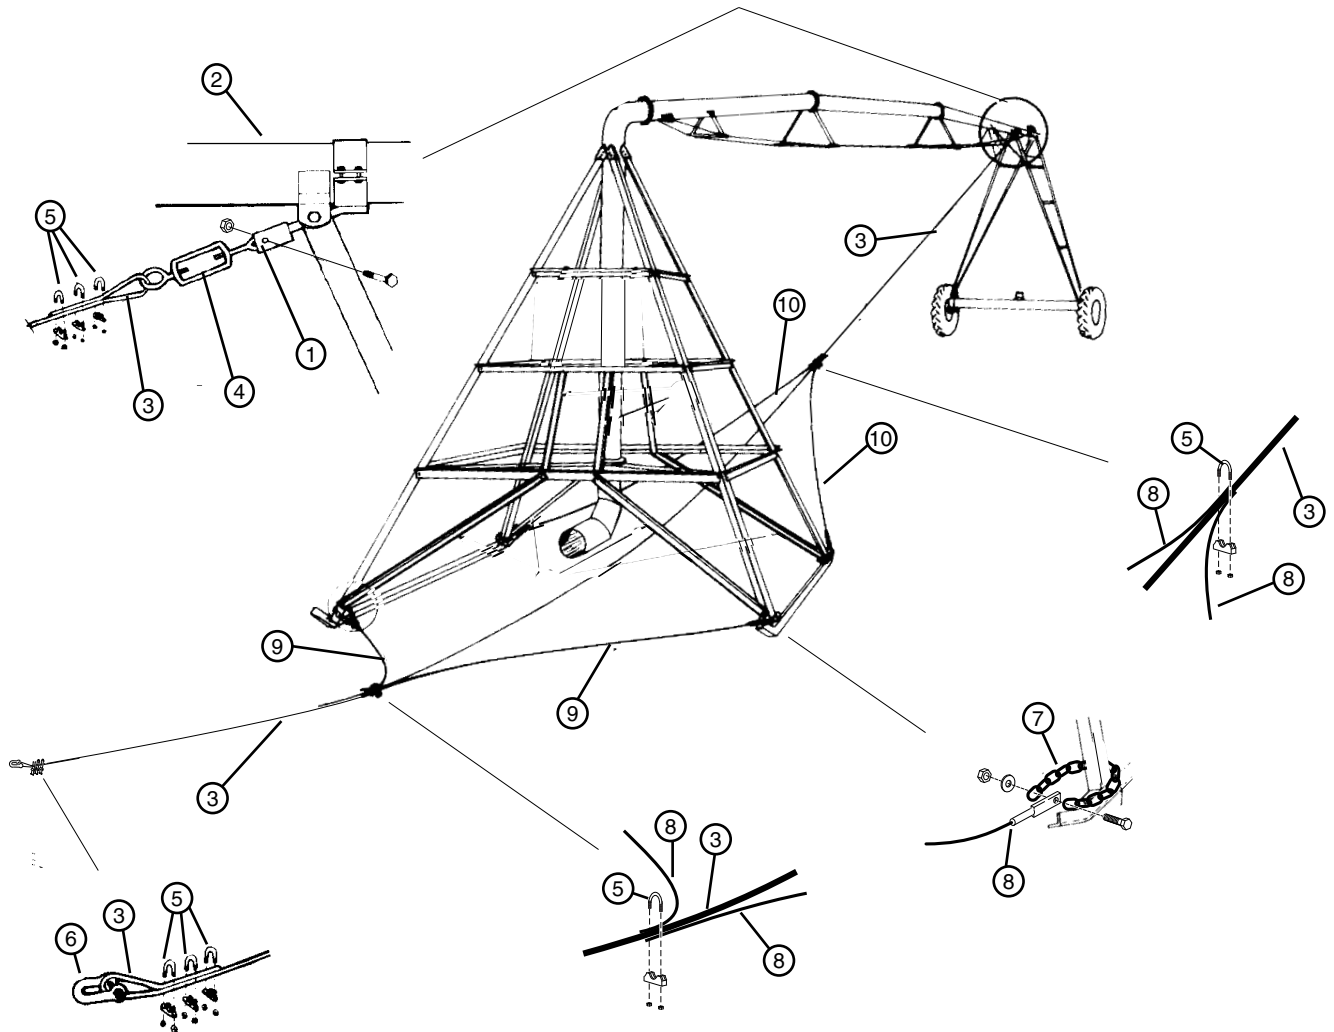

Figure 31-1 1. Tow Cable Attachment Bracket 5. 1/2 in Cable Clamp 9. Leading Trail Cable
6. Install the tow cable attachment bracket on the span pipe above the drive unit. See figure 31-1.
7. On one end of 1/2 in tow cable, extend 2 feet of cable through one of the eye bolts on turnbuckle, then clamp tow cable together with three 1/2 in cable clamps. See figure 31-1.
8. Bolt the other eye bolt on turnbuckle to the tow cable attachment bracket. See figure 31-1.
9. On the other end of 1/2 in tow cable, extend 2 feet of cable through a clevis and clamp with three 1/2 in cable clamps. See figure 31-1.
10. Wrap chains around the bottom of each pivot leg, then bolt a pivot trail cable to each chain. See figure 31-1.
- Adjust the leading trail cables on the tow cable, so that while towing, the leading ends of pivot skids raise approximately 4 in to prevent the skids from digging into the ground. See figure 31-1.
- Adjust the trailing trail cables on the tow cable, so that while towing, the trail cables are taught. This will reduce the wallowing action of the skid pivot. See figure 31-1.